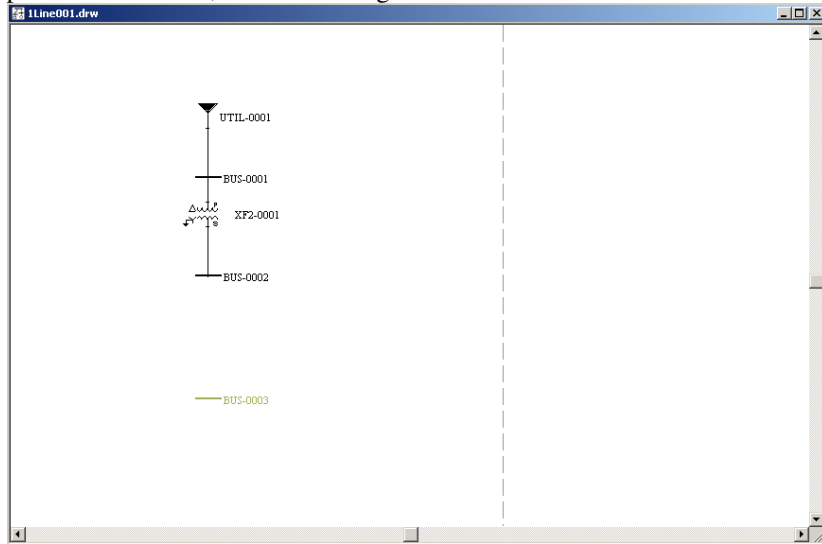

Fig. 10. Connecting a new Transformer between BUS-0001 and BUS-0002.
- Click the transformer icon and connect its top connection point to BUS-0001 and the bottom connection point to BUS-0002, as shown in Fig. 10.